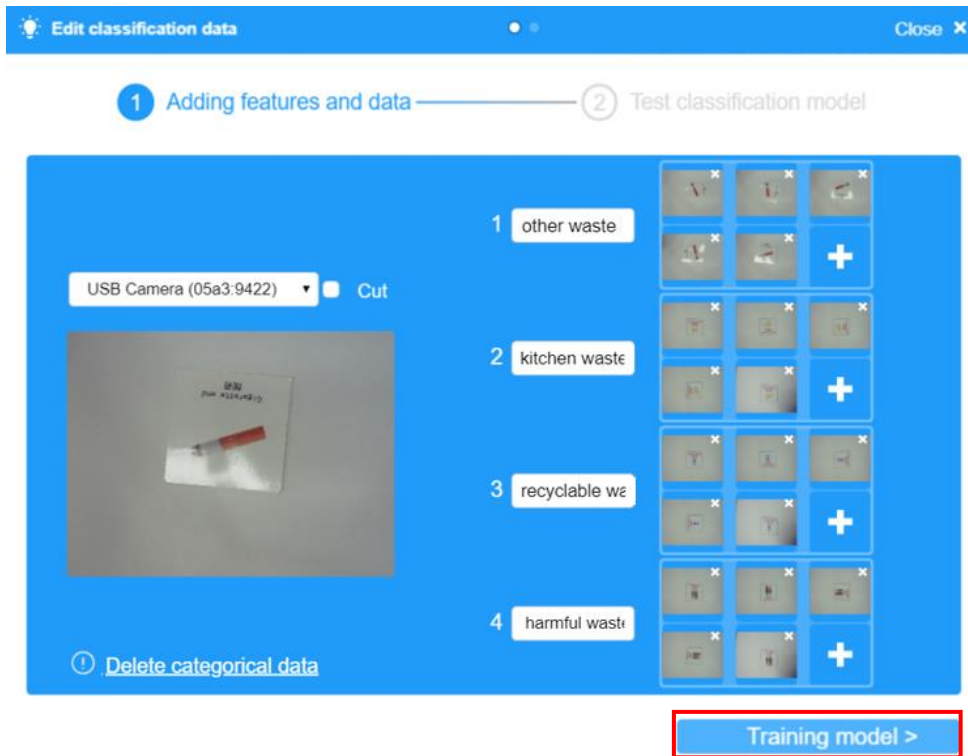

Figure 3.4 Training the model
Step 4: Train the model. The process of garbage image preprocessing and feature extraction is the process of computer learning. Figure 3.4 shows the model training.